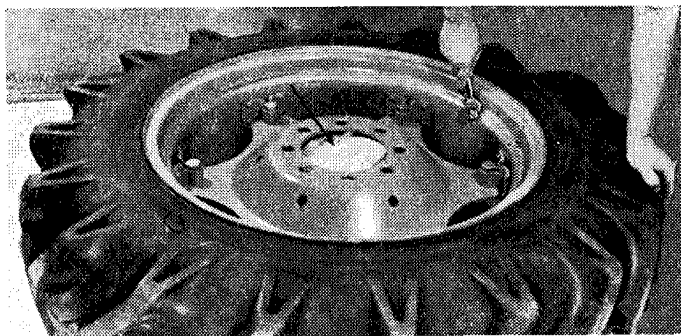

Fig. 39
1. Lay the wheel with tyre down on the ground on a wooden block (Fig. 39). Deflate the air from the inner tube by screwing out the valve and screw
off the nut (Fig. 39) attaching the inner tube to the rim.